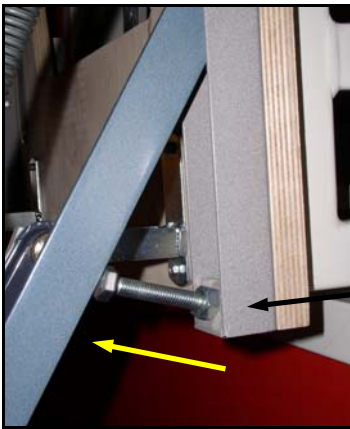

Figure 5
1. With stair extended to floor, adjust set screw under stabilizer arm so it touches bottom of arm. This provides support to keep stair straight. Figure 5.